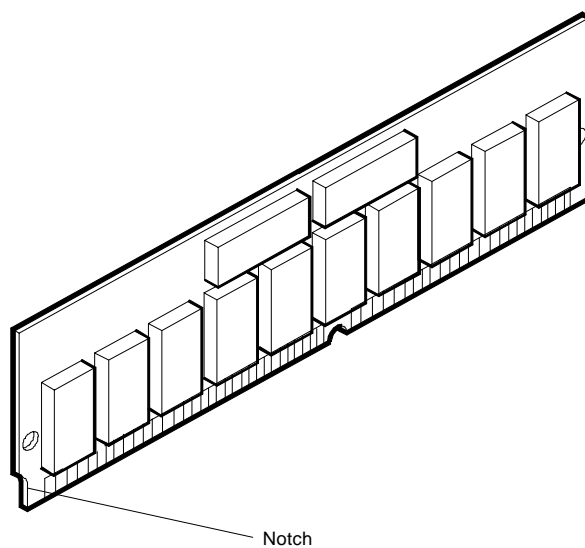
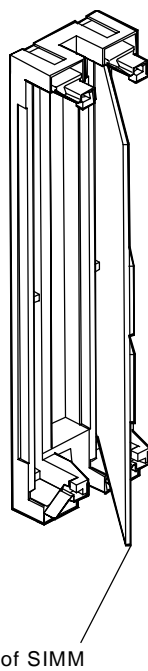

Figure 4-6 Notched End of SIMM
Figure 4-7 Aligning the SIMM
1. Align the notched end of the SIMM (see Figure 4-6) with the bottom end of the left or right SIMM socket (see Figure 4-7).